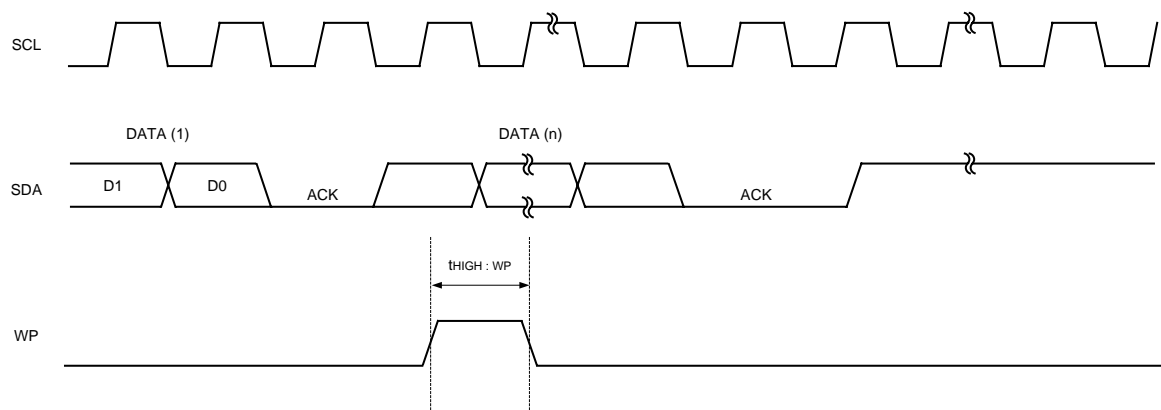

Fig.6(b) WP TIMING OF THE WRITE CANCEL OPERATION
- For the WRITE operation, WP must be "LOW" during the period of time from the rising edge of the clock which takes in D0 of first byte until the end of twr. (See Fig.6 (a))